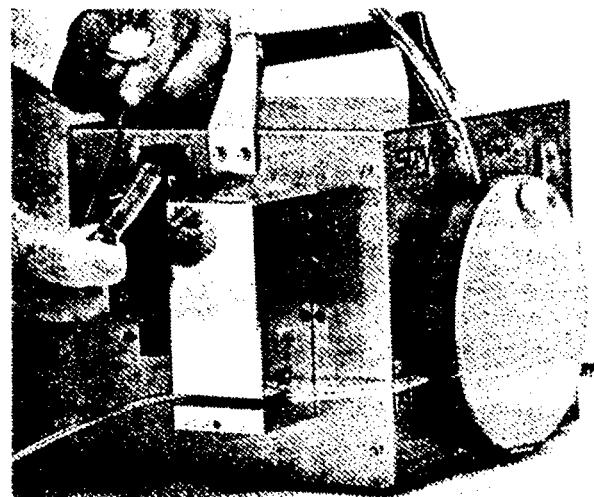

Figure 5
9. Attach the suction line tube of tubing set to the hospital suction hookup. See figure 5. Figure 5